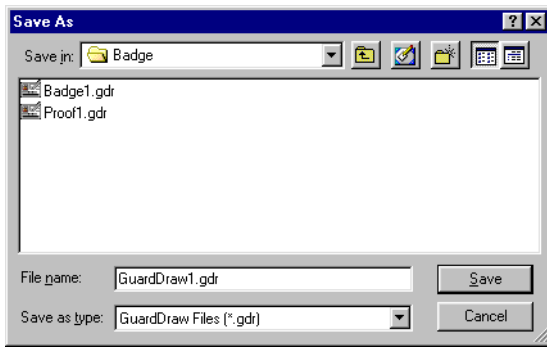

Figure 12: The Save As Window
1. Click the File ⇒ Save pull-down menu. The Save As window appears (see Figure 12 on page 12).